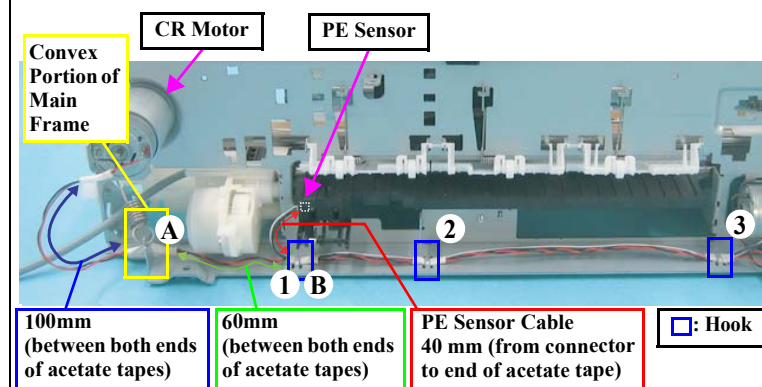

Figure 4-86. Routing the Cable
- When routing the CR Motor Cable and PE Sensor Cable, refer to Fig.4-86 and follow the steps below.
3. Route the center of the acetate tape A behind the convex portion of the Main Frame, and secure the tied cables with the hook (1) at the center of the acetate tape B so that the CR Motor Cable faces toward you.
4. Wrap the CR Motor Cable and PE Sensor Cable with acetate tapes (20 mm) at the positions of the hooks (2) (3), then secure the center of the acetate tapes with Hooks (2) (3).